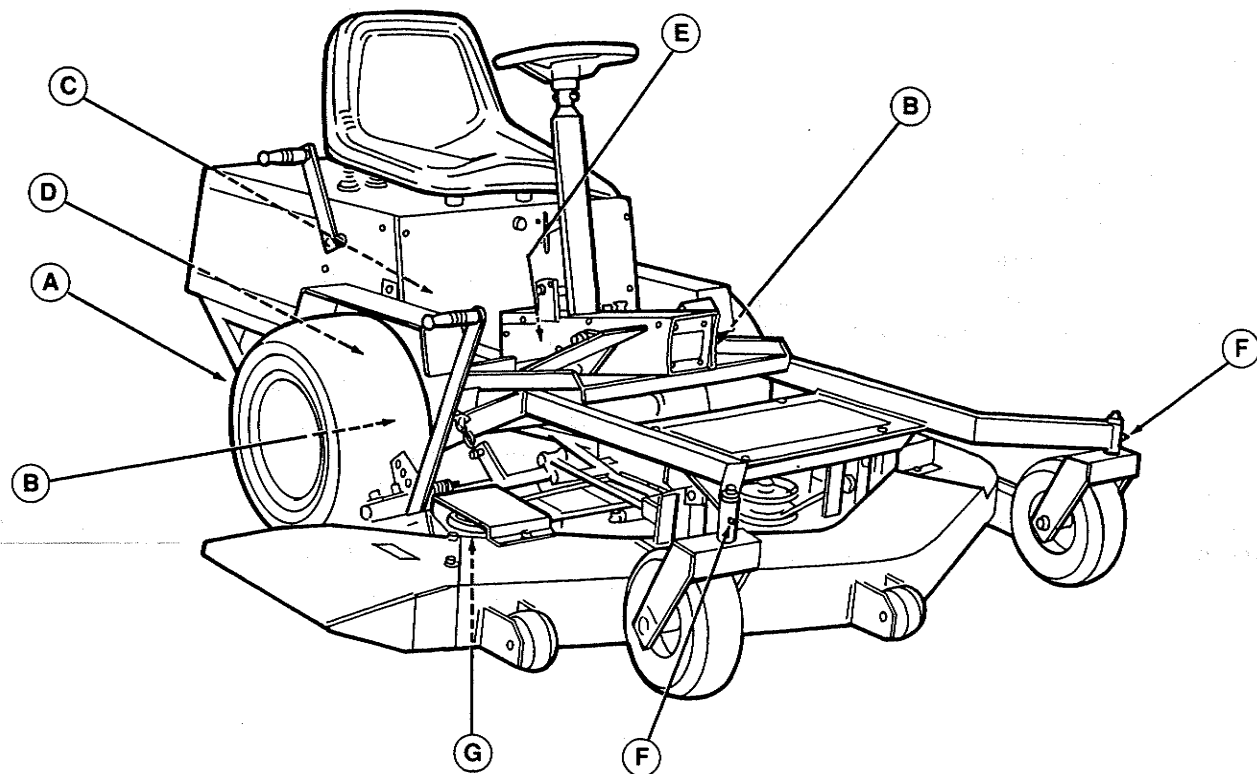

Figure 6. Lubrication Points
1. Lubricate the following points on the rider (refer to figure 6):